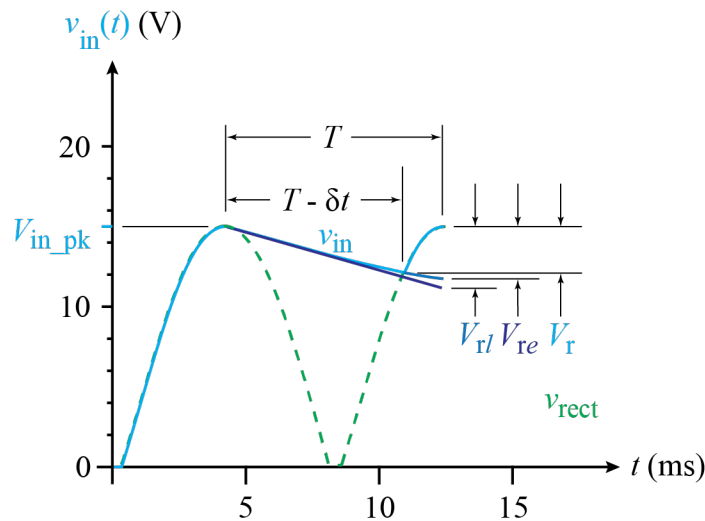

Fig. 9: Capacitor ripple voltage calculation options.
As indicated in Fig. 9, there are at least three progressively more accurate ways of calculating the time interval, Δt , and the current versus time, $i_C(t)$.
1. We may assume the current out of the capacitor is constant at the peak value until the next peak. This gives voltage V_{r1} in Fig. 9.
2. We may model the voltage regulator as a Thévenin equivalent and use an exponential RC solution until the next peak of the sinusoid input voltage. This gives voltage V_{re} in Fig. 9.
3. We may model the voltage regulator as a Thévenin equivalent and exponential RC solution, as in (2), but stop the RC solution when it intersects with the rising sinusoid. The shortcoming of this method is that it is unnecessarily complicated for most cases. The advantage of this method is that it gives the most accurate voltage, V_r , in Fig. 9.